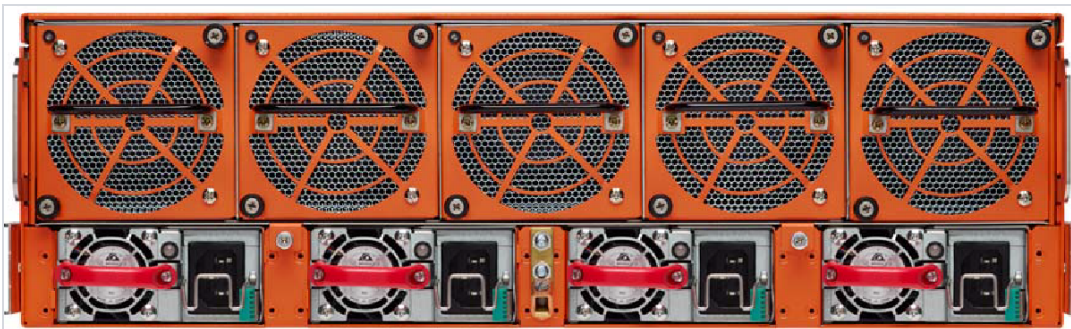

Figure 6: Four Power Supply Modules Installed
4. Repeat the previous steps for the next PSM. Figure 6: Four Power Supply Modules Installed on page 56 shows the GigaVUE-HC3 node with all four power supply modules installed.